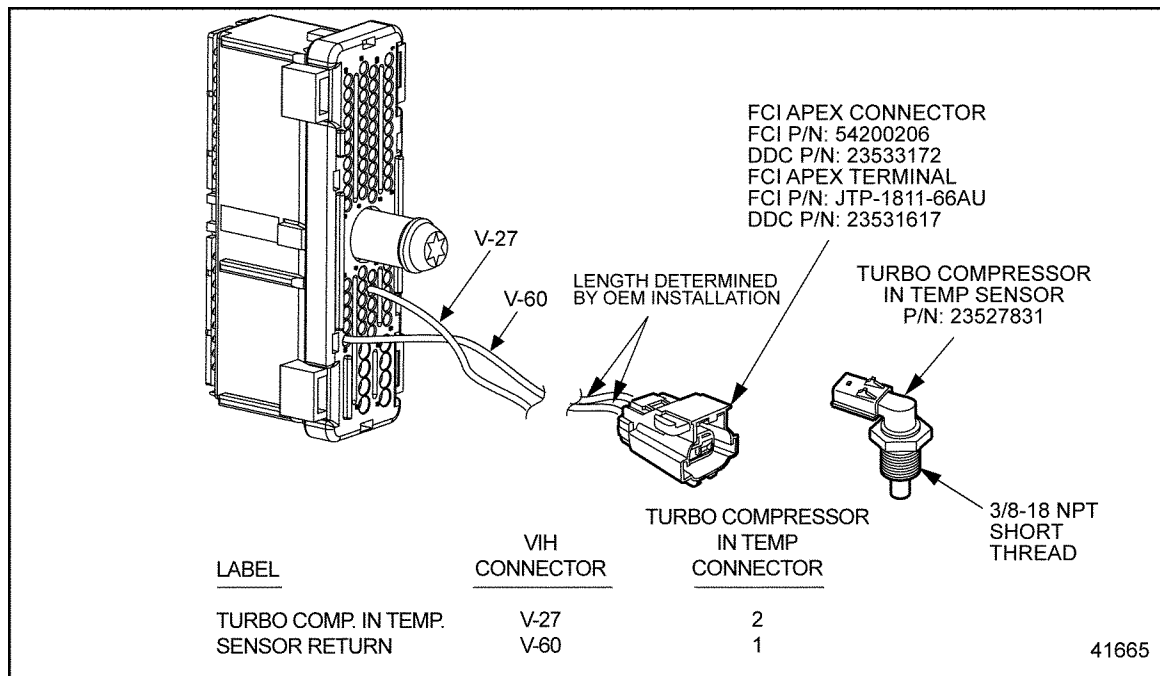

Figure 33-1 TCI Connector and Turbo Compressor In Temperature Sensor
2. Measure resistance between cavity 1 and cavity 2. See Figure 33-1.